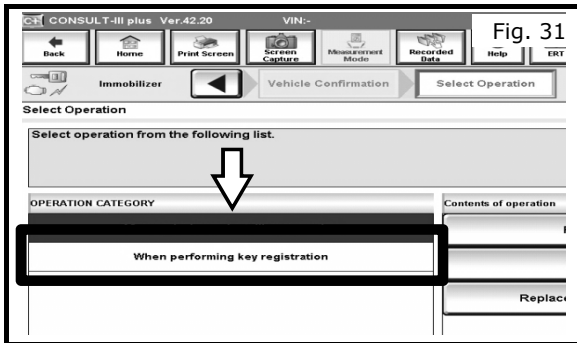

Fig. 31
- a) Once the system call is complete, you will enter the Select Operation screen will as shown in Fig. 31.
- b) Under OPERATION CATEGORY menu click "When performing key registration" as shown in Fig. 31.